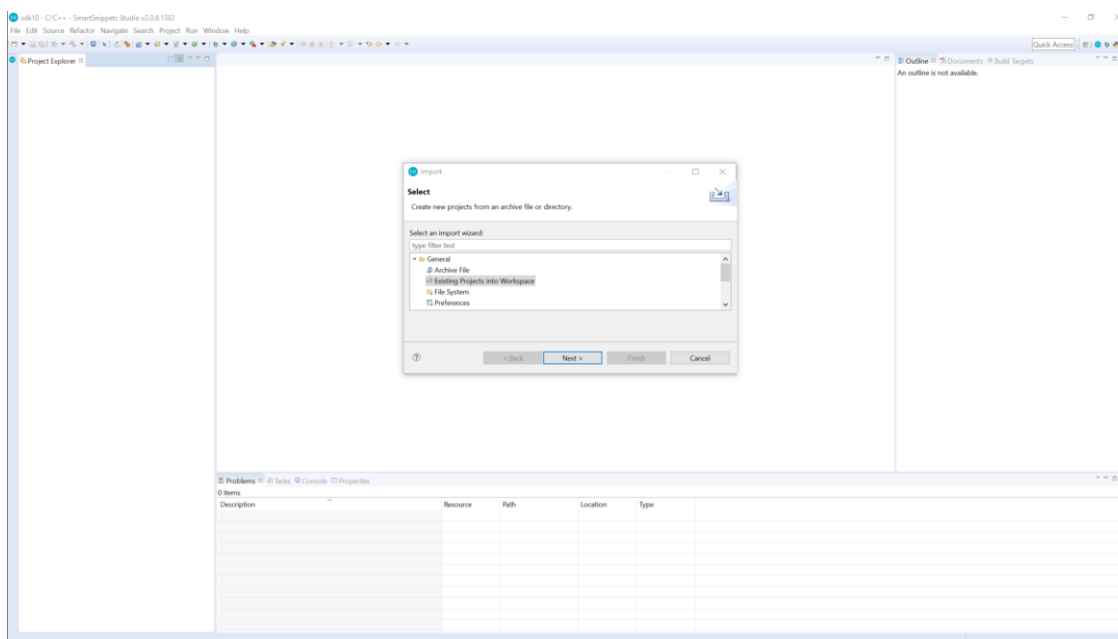
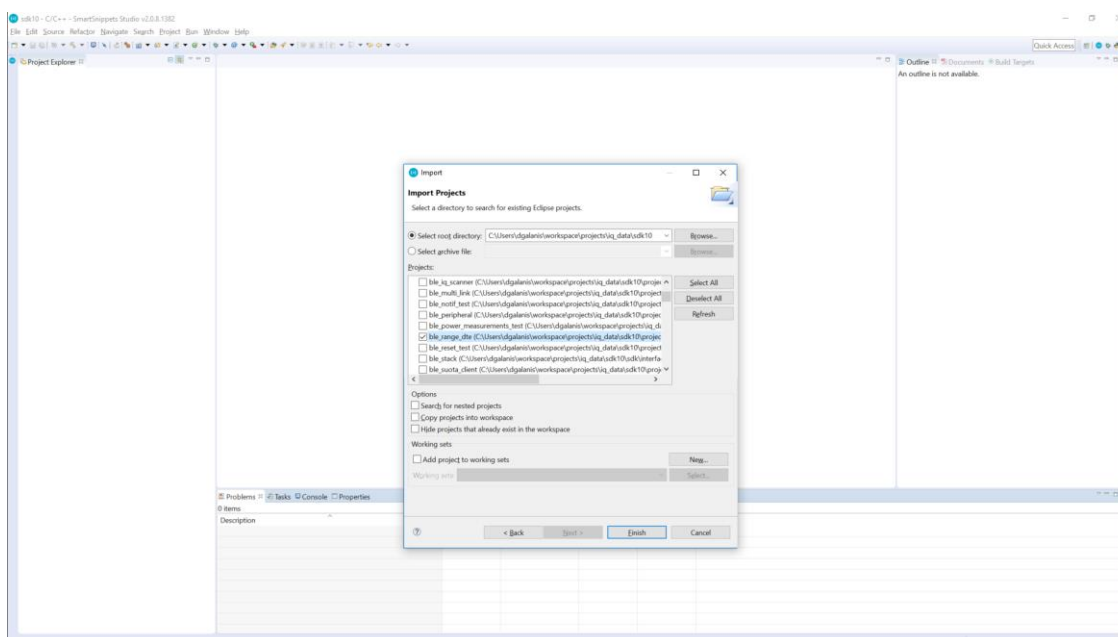

Figure 3: Import a Project into the Workspace
Figure 4: Select the ble_range_dte Project
- b. Select **General > Existing Projects into Workspace** > click **Next** (Figure 3) > **Select root directory** (Figure 4).